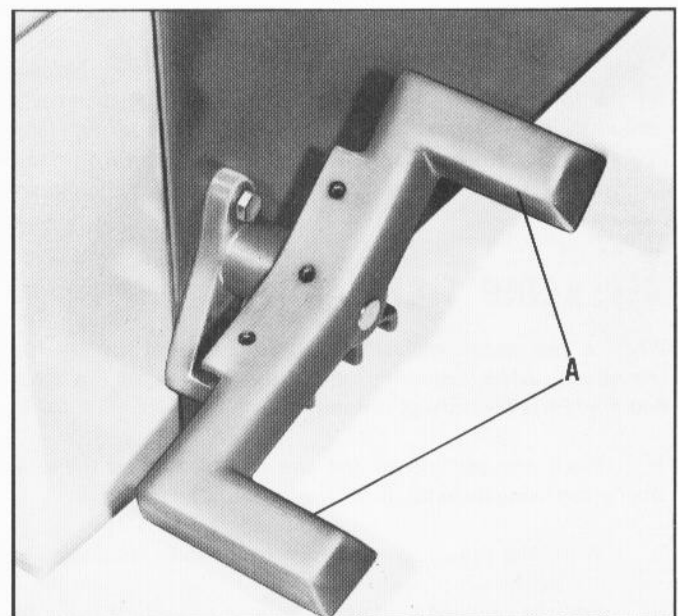

Fig. 9
To increase speed, simply push forward with the toe on the foot-operated speed changer (A) Fig. 9, and to decrease speed, push down with the heel.